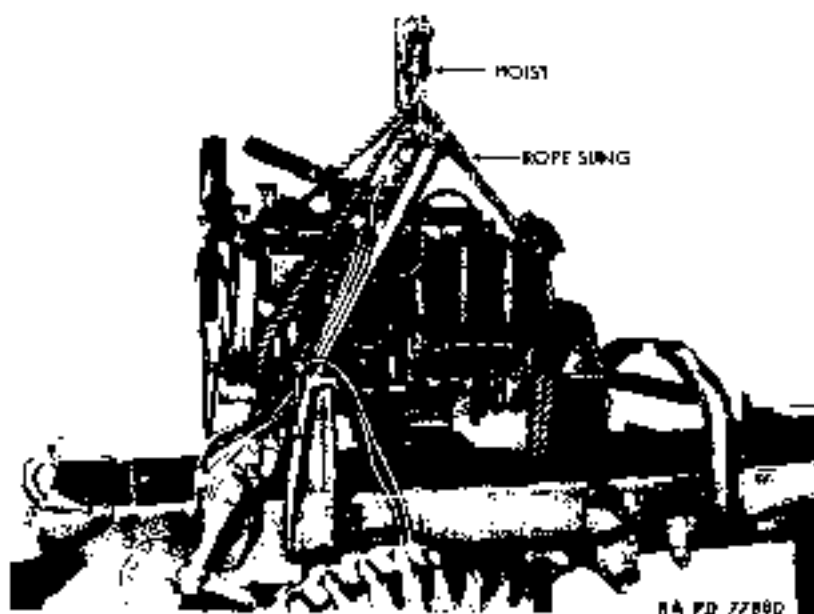

Figure 24 — Removing Engine From Vehicle
uu. Attach Rope Sling to Engine (fig. 24). Loop center of rope under crankshaft starting jaw housing. Bring ends of rope diagonally across top of engine, crossing them at center; then pass each end of
ww. **Remove Engine From Vehicle** (fig. 24). Raise engine slowly off supports, checking disengagement of all wires and parts. Shift position of vehicle as necessary to provide clearance. Continue raising engine, and remove from vehicle. Remove front engine support bracket spacer.
a. **Attach Rope Sling to Engine** (fig. 24) (par. 56 uu).
b. **Position Engine on Vehicle** (fig. 24). Install four new support blocks on rear engine support extensions, and position blocks on extensions. Position support bracket spacer on front engine support. Raise engine to position at front of vehicle, and then lower slowly to front support and rear support extensions. **CAUTION: Maintain adequate clearance for parts and assemblies.**